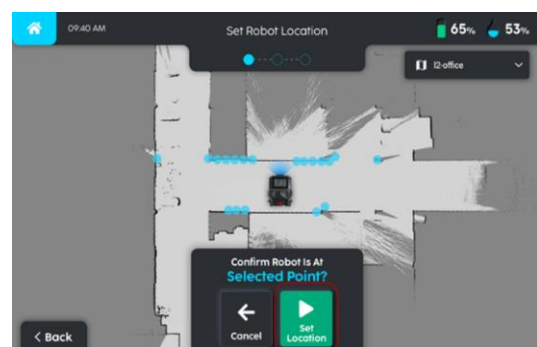

FIGURE 8-9
6. Click on 'Set Location' to confirm robot location (Fig. 8-9).